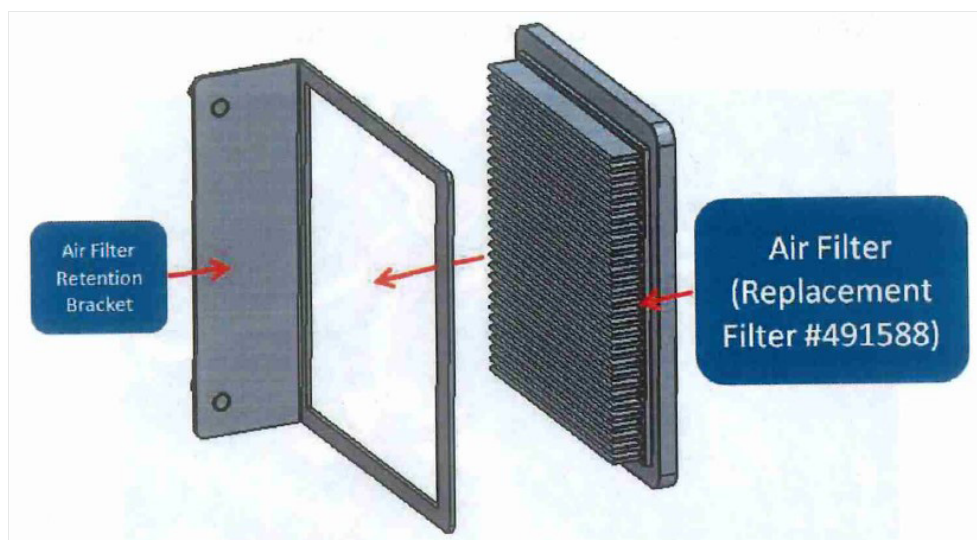

FIGURE 23
56. Insert the air filter (Replacement Filter #491588) into the air filter retention bracket as shown in **FIGURE 23**. Insert the assembly into the heater box and secure it with the two $\frac{1}{4}$ " serrated flange nuts. Change the filter annually or as needed.